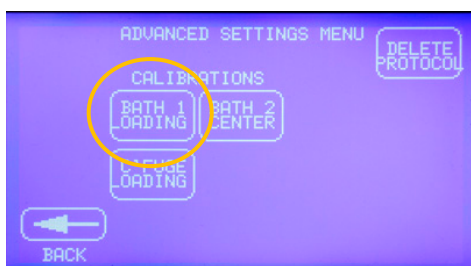
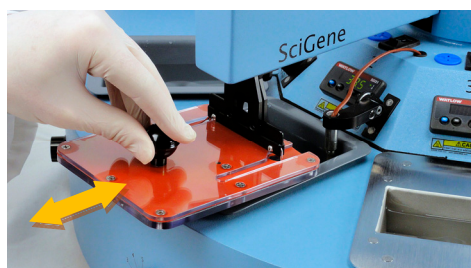

Fig. 1. Use Bath 1 Loading calibration to adjust rack.
Fig 3. Slide cover over rack handles to insert/remove.
1. On the touchscreen, go to **Control Panel>Advanced Settings>Bath 1 Loading**, hold a slide rack in Bath 1 and then adjust rack position upwards (Fig. 1, 2) to allow the cover to glide over the rack handles, while rack remains submerged (Fig. 3).